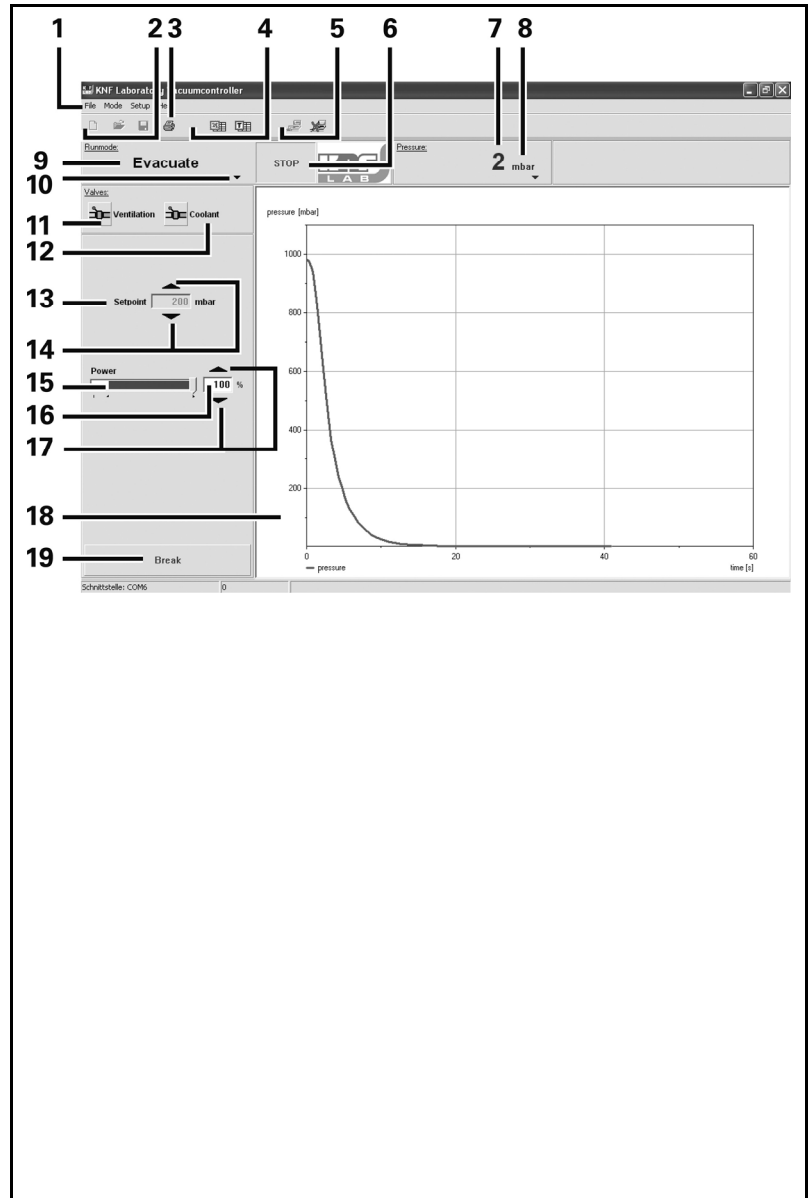

Fig. 19: Example of software interface showing *Evacuate* operation mode
Fig. 19 displays an example of the software interface.
The connection to the vacuum pump system is established and separated by pressing the corresponding button (see Fig. 19/5, page 41). If several vacuum pump systems are connected to the PC, select the desired vacuum pump system from the list.
Pressure units menu (Fig. 19/8, page 41)
- Diagram: Operating mode menu (Fig. 19/10, page 41)
- ➔ Press START/STOP button (Fig. 19/6, page 41).
- ➔ Press Ventilation valve button (Fig. 19/11, page 41).
- ➔ Press Coolant valve button (Fig. 19/12, page 41).
- ➔ Adjust pump capacity by moving slide control (Fig. 19/15, page 41), button (17) or display (16).
- ➔ Set setpoint pressure with the Increase/decrease setpoint pressure button (Fig. 19/14, page 41) or enter data into display (13) via keyboard.